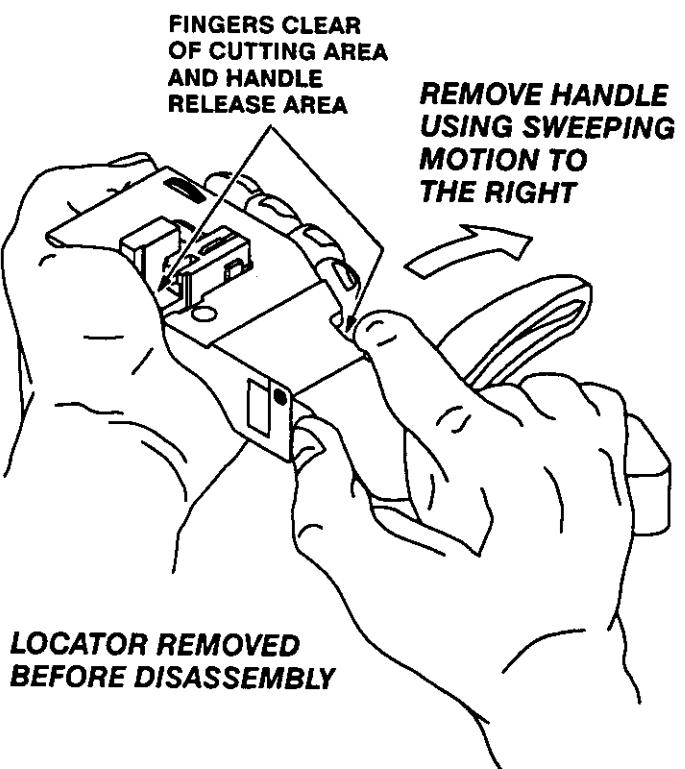

Fig. 6
1. Maintain a firm grip on head in left hand and handle in right hand as shown in Figure 6.